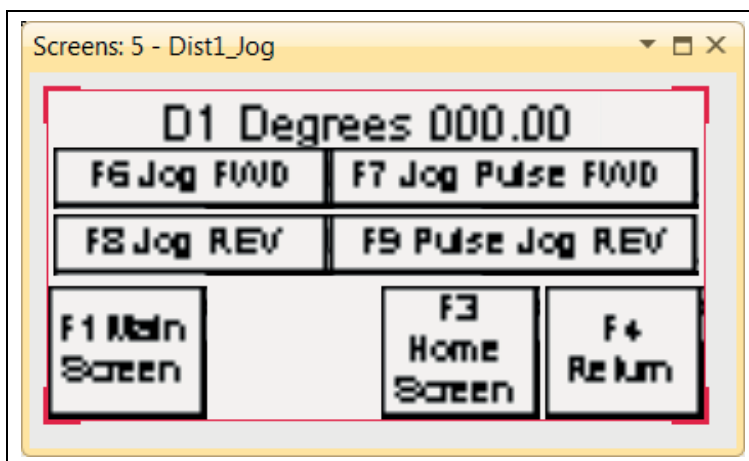

Figure 5I
9. Press the **F3** Jog Screen key. The following screen will appear as in Figure 5I. Use the **F6** and **F8** keys to move the spout forward and reverse.